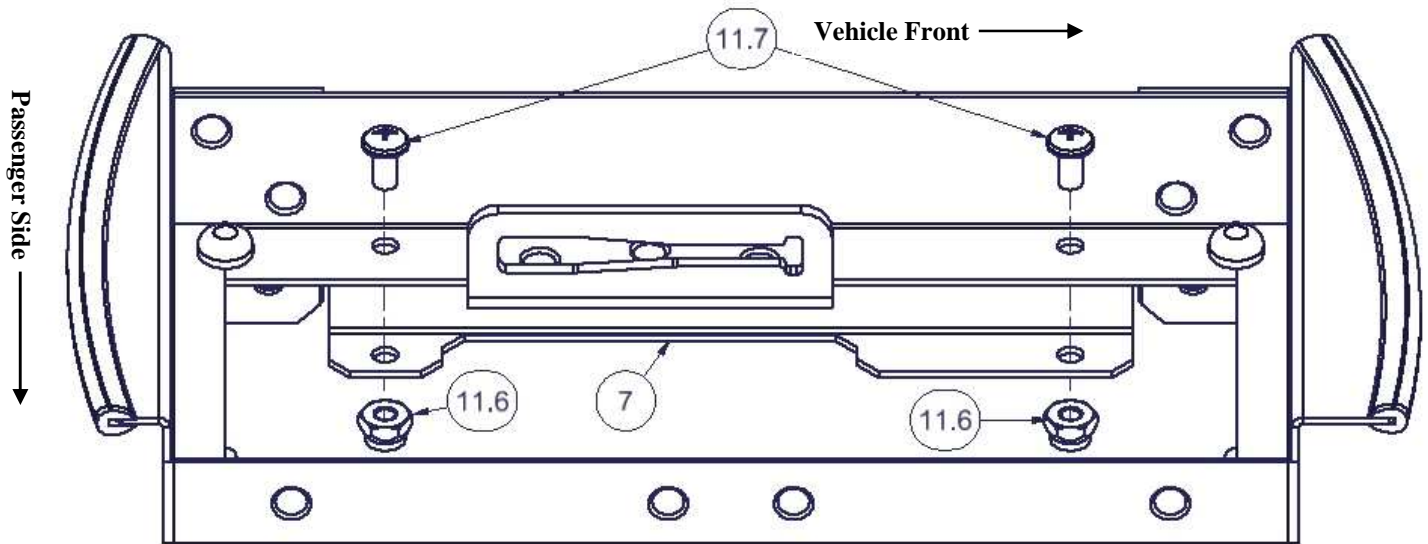

FIGURE 4b
12. Secure the #7 Plate to the assembly using 2) #11.7 screws, and 2) #11.6 Nuts. (See Figure 4b)